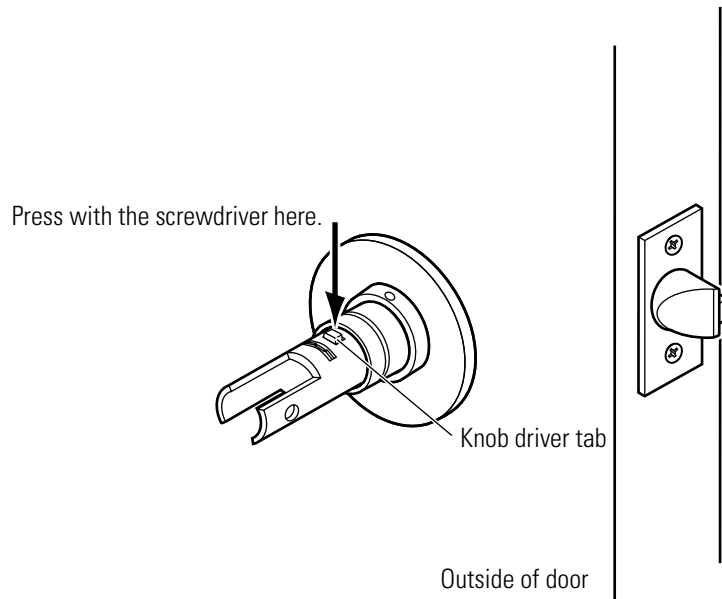

Figure 3.5 Removing the knob driver
2. Use a flat blade screwdriver to press down on the knob driver tab, which is visible through the cutout in the top of the sleeve, as shown in Figure 3.5. The knob driver should fall out through the cutout in the bottom of the sleeve.